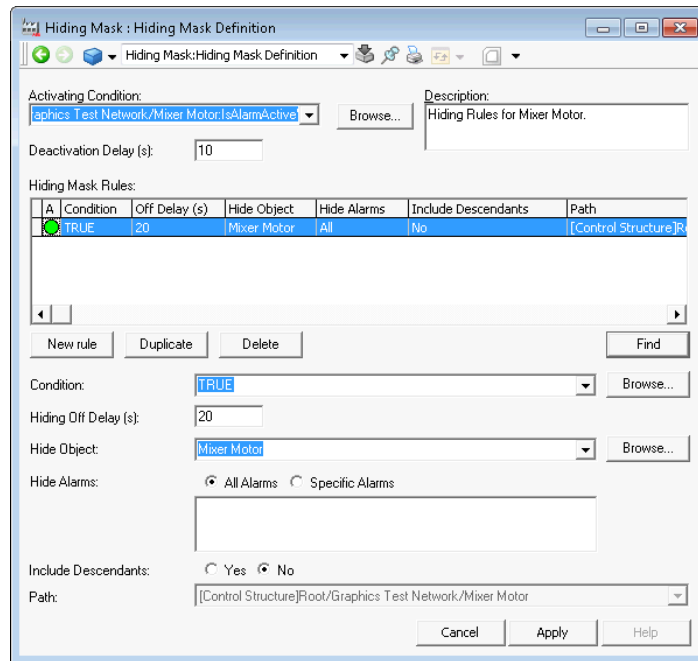

Figure 34. Hiding Mask Definition
- **New Mask** - Select **New Mask** to create a new Hiding mask. To edit a Hiding Mask, double-click on the Mask or select a Mask and click **Edit Rules** (refer to Edit Rules). This opens the **Hiding Mask Definition** dialog box, refer to Figure 34.
Click **Apply** on the new created mask and then **Edit Rules** to add a Hiding Rule. The Hiding Mask Definition dialog appears, refer to Figure 34.